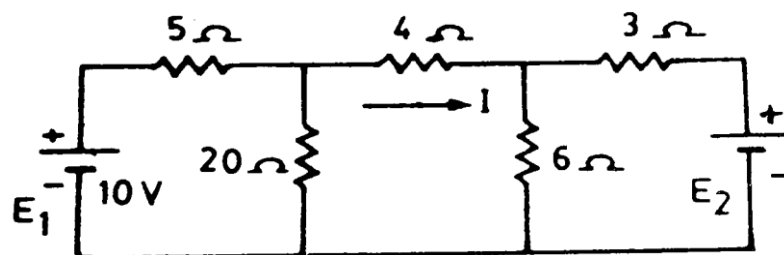

Figure 2
2. a) For the Figure 2 shown, Find the value of EMF of source E_2 so that the current 'I', flowing through the 4Ω resistor becomes zero. Use Branch Current method, Kirchhoff's Current Law and Kirchhoff's Voltage Law as applicable. 07